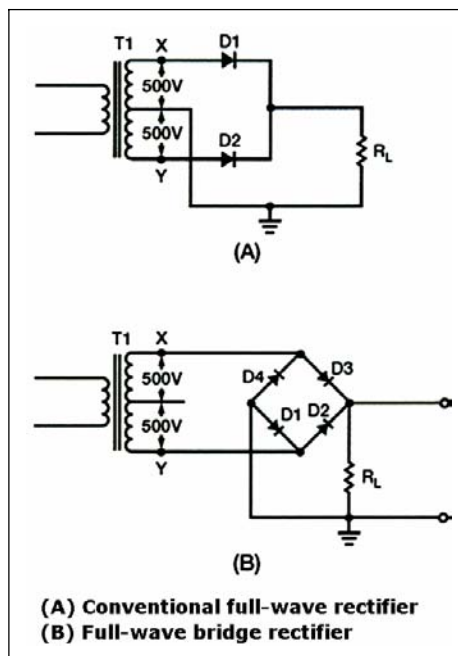

Figure 4-9. Comparison of a Conventional and Bridge Full-wave Rectifier
as that of the conventional full-wave circuit. This may be shown by assigning values to some of the components (see Figure 4-9, views (A) and (B)). Assume that the same transformer is used in both circuits. The peak voltage developed between points X and Y is 1,000 volts in both circuits. In the conventional full-wave circuit shown in view (A), the peak voltage from the center tap to either X or Y is 500 volts. Since only one diode can conduct at any instant, the maximum voltage that can be rectified at any instant is 500 volts. Therefore, the maximum voltage that appears across the load resistor is nearly (but never exceeds) 500 volts. This is a result of the small voltage drop across the diode. In the bridge rectifier shown in view (B), the maximum voltage that can be rectified is the full secondary voltage, which is 1,000 volts. Therefore, the peak output voltage across the load resistor is nearly 1,000 volts. With both circuits using the same transformer, the bridge rectifier circuit produces a higher output voltage than the conventional full-wave rectifier circuit.